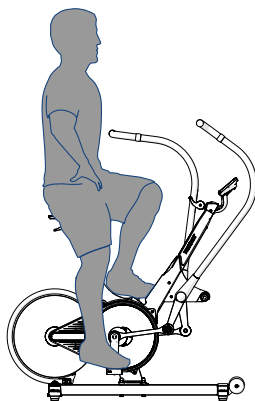

Figure 17. Lower Body Training Exercise Position
**Independent Lower Body Training** (Figure 17) is an advanced workout position that focuses on the lower body muscle groups. Position hands on your hips to maintain balance and to prevent injury.